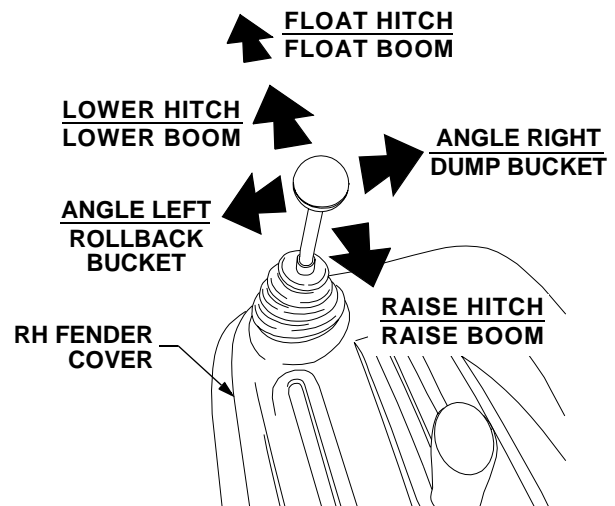

Figure 25
- Pull the handle rearward to raise the front hitch or front loader boom. See Figure 25.
- Push the handle forward to lower front hitch or front loader boom. Refer to Figure 25.
- Push the handle to the right to angle (if equipped) the front hitch to the right or dump the loader bucket. Refer to Figure 25.